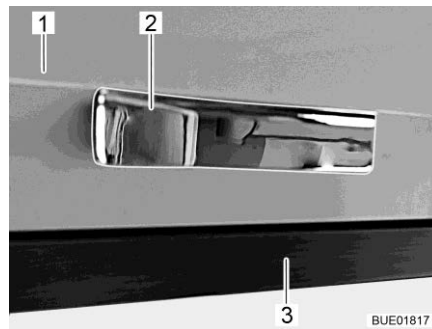

Fig. 73 Furniture flap with pressurised release
- Press the furniture flap (Fig. 73,1) with the handle (Fig. 73,2) against the cabinet body (Fig. 73,3). The furniture flap is unlocked.